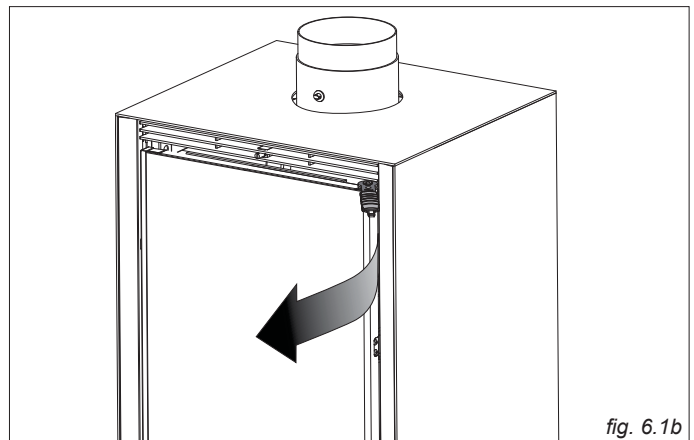

fig. 6.1b
- **IKI UP:** insert the supplied key in the hook of the upper side of the door (Fig. 6.1b), and pull it towards you. **Warning!** an automatic system will tend to leave the door open.